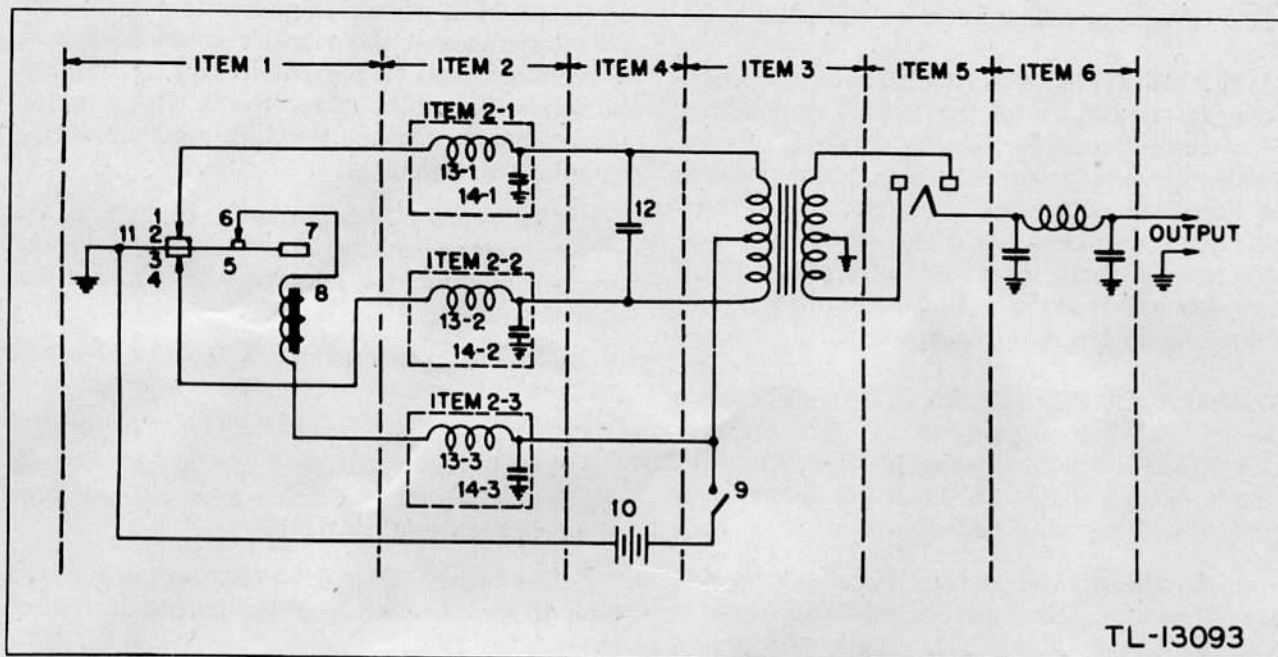

Figure 28. Schematic diagram of basic vibrator circuit.
**67. VIBRATOR POWER UNIT PE-237.** The basic theory of a power supply, such as Vibrator Power Unit PE-237, is best explained by reference to the circuit shown in figure 28. There are six principal components to such a system:
(1) A set of driving contacts. The purpose of the driving contacts is to operate the reed of the vibrator in much the same fashion as an electric buzzer. When switch 9 (fig. 28) is closed, power from battery 10 flows through reed 11, through contacts 5 and 6, through coil 8, and back to the opposite terminal of the battery. As soon as the current flows through coil 8, a magnetic field is built up which pulls armature 7 (a small iron weight on the end of the reed) toward the pole-piece of the coil. When this happens, the movement of the reed separates contact 5 from contact 6, interrupting the current. This stops the magnetic pull on the armature and allows the reed to move back to its former position again, closing the contacts. This cycle of vibration continues until the switch is opened. Power contacts 1, 2, 3, and 4 are operated by the vibration of the reed.
(2) A set of power contacts. The purpose of the power contacts is to connect the battery alternately first to one end of the center-tapped primary of the power transformer, then to the other. This reversing of direction of flow of current simulates alternating current and permits the transformer to step up the applied battery voltage to the high voltage required for B voltage.